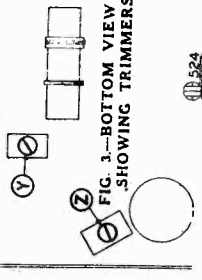

FIG. 3—BOTTOM VIEW SHOWING TRIMMERS
(b) Adjust short wave antenna trimmer (Adjustment "Z"), to resonance (see Fig. 3, bottom view).
- Set external oscillator and dial on radio to 1400 K.C. and adjust broadcast oscillator trimmer to resonance. (Adjustment "Y"). (see bottom view of Chassis, Fig. 3) Tune gang, condenser slowly back and forth while making this adjustment.
- Re-set external oscillator to 600 K.C., and adjust broadcast series pad (adjustment "X"), to resonance by rotating condenser to approximately 600 K.C., rocking it slowly to and fro until by adjusting series pad a faint signal is attained. This adjustment is located on the front flange of the chassis. (See bottom view of chassis, Fig. 3)